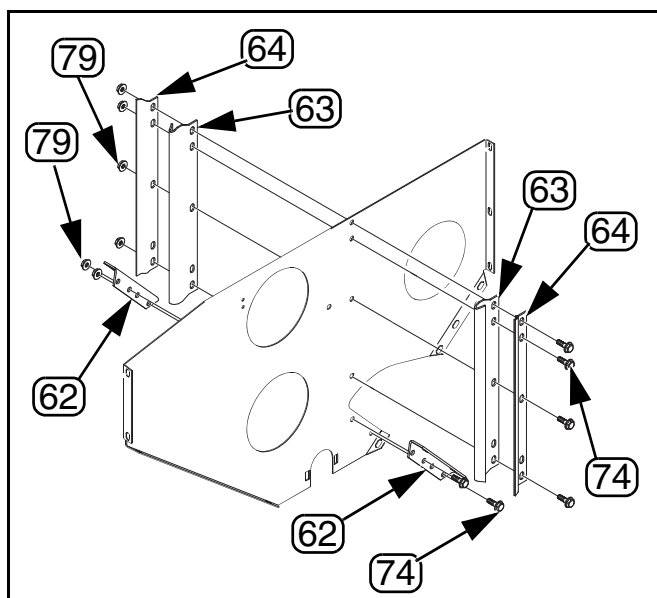

Figure 16
**Refer to Figure 16**
4. Install a set of inner divider clips (63) and outer divider clips (64) on both sides of each box partition (1). Use 5/16-18 x 1 1/4 bolts (74) and 5/16-18 hex nuts (79) to fasten the divider clips to the partitions. Leave the bolts loose.
5. Attach a divider angle bracket (62) to each side of each partition (1) using 5/16-18 x 1 1/4 bolts (74) and 5/16-18 hex nuts (79).
**Refer to Figure 16.**
15. Insert seed/fertilizer flap assembly (55) up through opening under main seed box (1). Using retaining clips installed earlier, fasten the top of the seed/fertilizer flap in the raised position. Insert rubber belting hinge (3) of the seed/fertilizer flap between bottom of partitions (2) and the channel (4).
16. Insert the front lip of the fertilizer tray (52), (51), or (53) up through opening under main seed box. Insert front lip over the channel (4) and under the rubber belting hinge (3) and partitions (2).
17. From inside main seed box, fasten the partitions (2) to rubber belting hinge, fertilizer tray, and channel. Use 5/16-18 x 3/4 bolts (73) and 5/16-18 hex flange nuts (79).